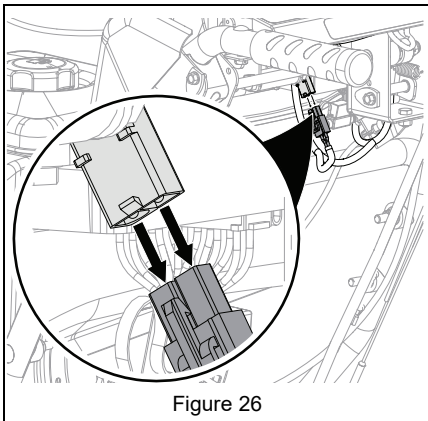

Figure 26
1. Disconnect battery connector. See Figure 26.
4. Reconnect battery connector when battery is ready for use. See Figure 26.